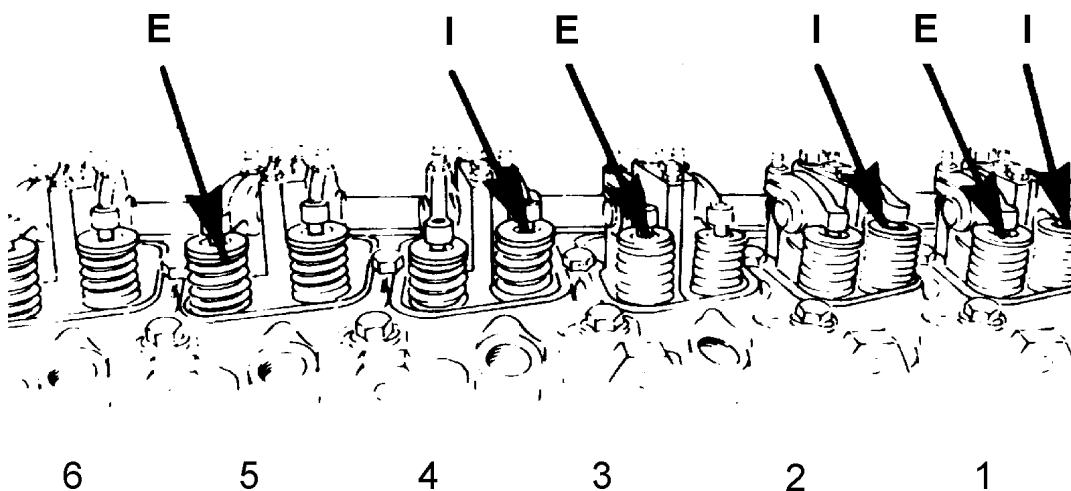

Fig. 5.26. Engine Valves
4. Check and adjust, if necessary, the valve lash as shown in Fig. 5.26. Use a screw driver and a wrench. The value of the valve lash should be as follows:
- Suction valve (I): 0.25 [mm],
- Exhaust valve (E): 0.51 [mm].